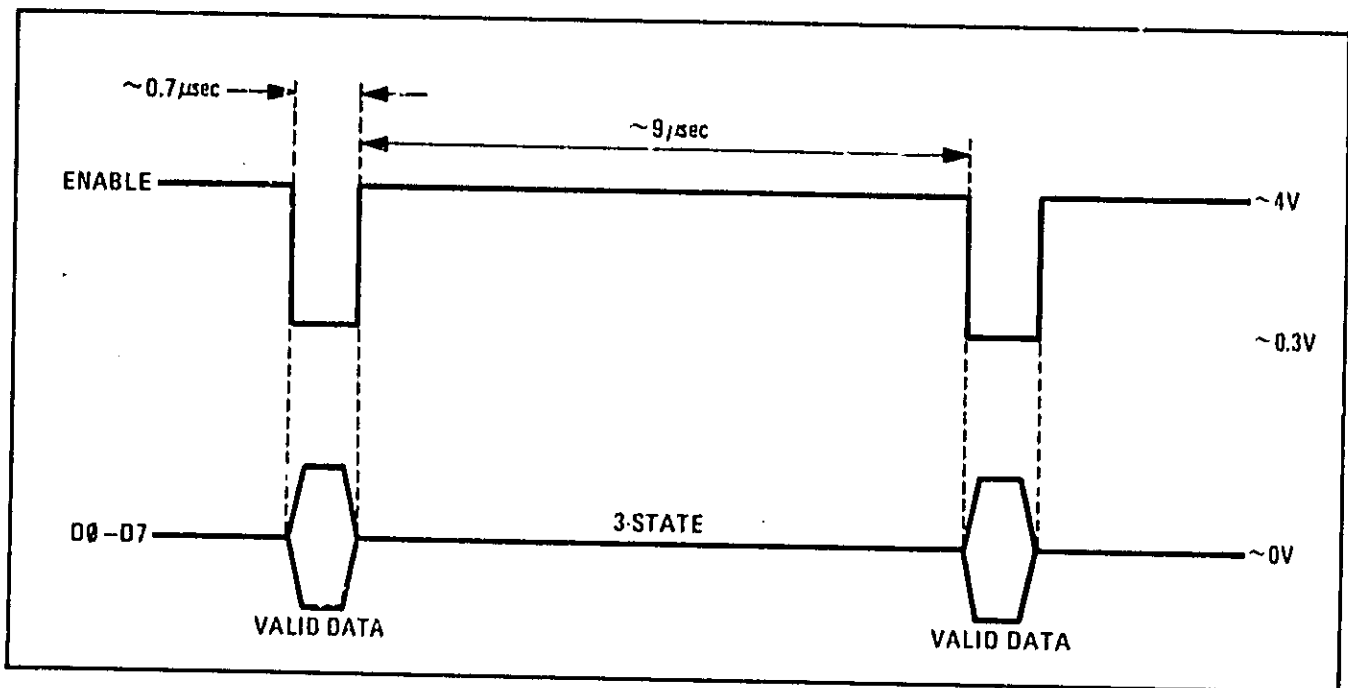

Figure 8-3. Hex Addressed Fast Read — Timing Diagram
- HEX ADDRESSED FAST READ, M5, provides an operator-initiated check for verification of the data bus, in which the addressed device is clocked in real time. Latch outputs can be traced from the onboard location back through the data bus to the microprocessor. At each buffer, verify TTL level response to the enable pulse. Enable line waveforms are shown in Figure 8-3.